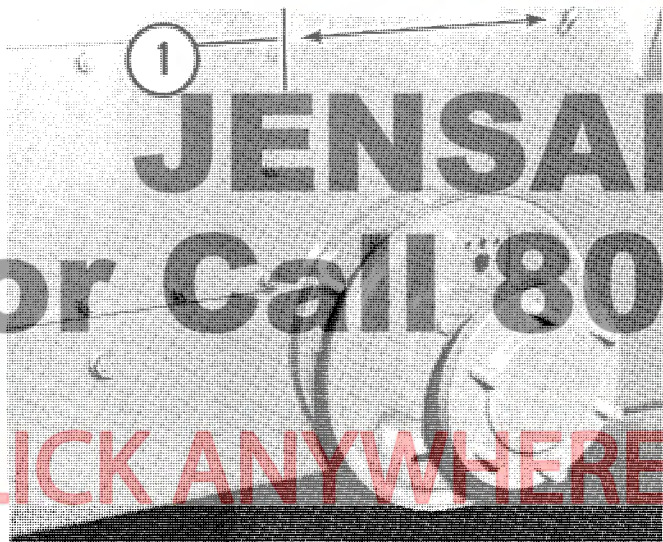
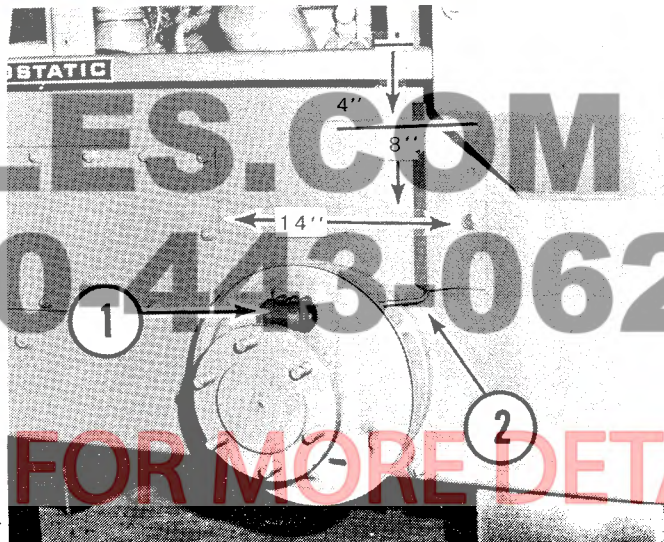

FIGURE 94
FIGURE 95
4. Drill 7/16" holes in the sides of machine 4" down from top and 12 1/2" over from the edge of inspection cover (1 Figure 94). Then drill 7/16" holes 4" and 8" down from top and 14" over from edge of inspection cover. (Figure 95)
5. Put in bulkhead elbow fitting (1 FIGURE 94).
6. Bolt on brake cylinders (1 Figure 95) and install lines from cylinders to bulkhead (2 Figure 95).